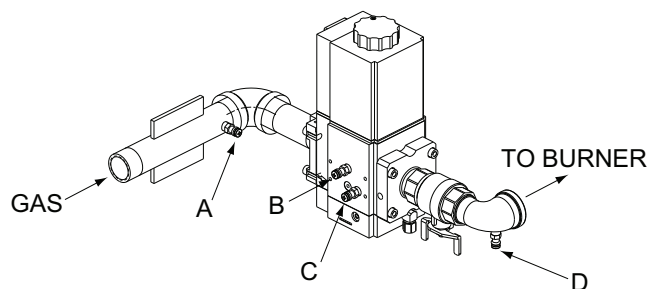

Fig. 52: Gas Pressure Measurement Locations
2. Attach (1) 12" scale manometer to an upstream bleedle valve on the gas supply pipe to the heater (Measure point "A" in Fig. 52).
3. Attach (1) 24" scale manometer to the manifold pressure tap located on the elbow downstream of the valve (Measure point "D" in Fig. 52).
4. Attach (1) 12" scale manometer near the fan-proving switch. Pull black cap from air pressure switch tee and connect the manometer. NOTE: Retain caps for reinstallation later.